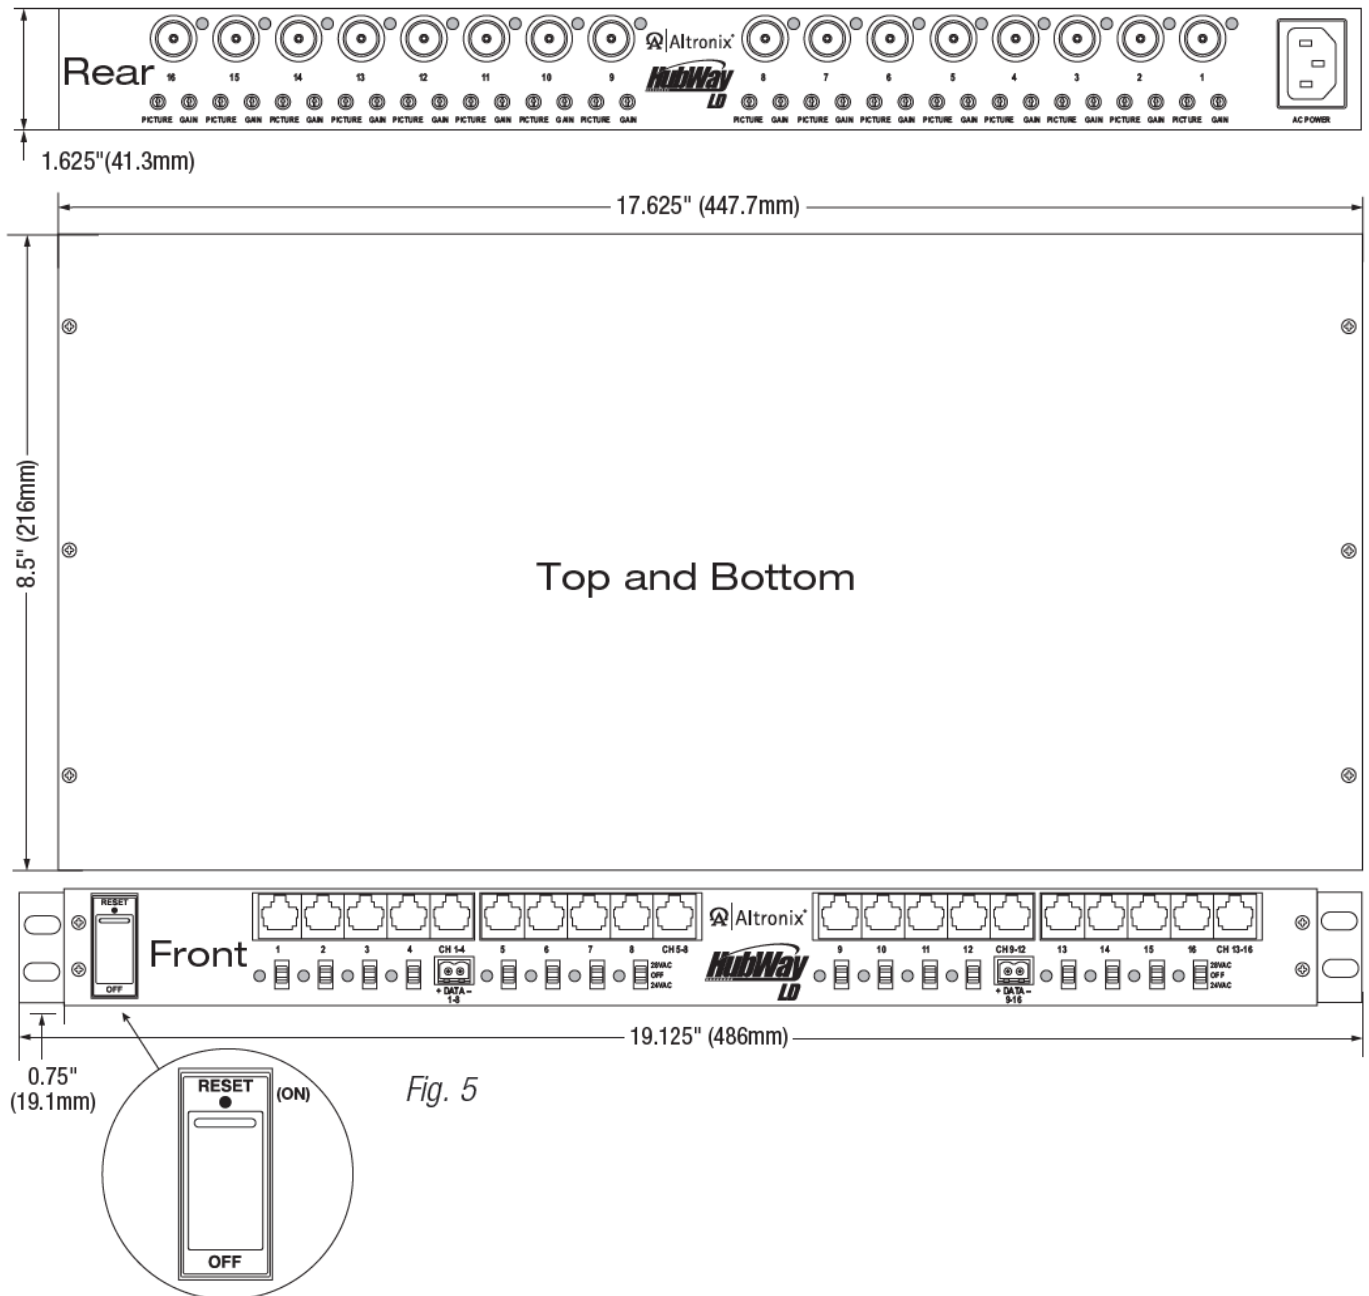

Fig. 5
4. Set the illuminated master power disconnect circuit breaker to the (OFF) position (Fig. 5, pg. 7).
10. Set the illuminated master power disconnect circuit breaker to the RESET (ON) position (Fig. 5, pg. 7) and measure the output voltage at the power output of each Video Balun/Combiner (Fig. 2b, 2d, pg. 5) before powering each camera to ensure proper operation and avoid possible damage.
11. Set the illuminated master power disconnect circuit breaker to the (OFF) position to make the final connections (Fig. 5, pg. 7).
15. Upon completion of the wiring set illuminated master power disconnect circuit breaker to the RESET (ON) position (Fig. 5, pg. 7).